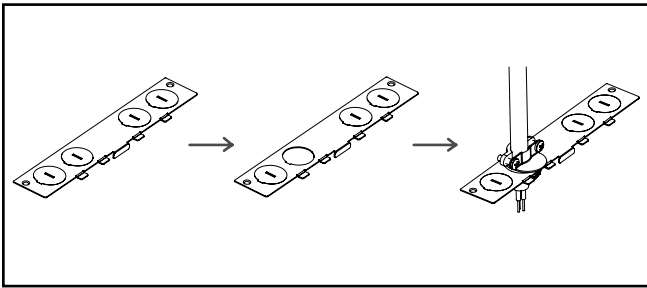

Figure 19.
8. Remove the knockout and install the white flexible cord included with the kit, using an appropriate strain relief (not included). See Fig.19.